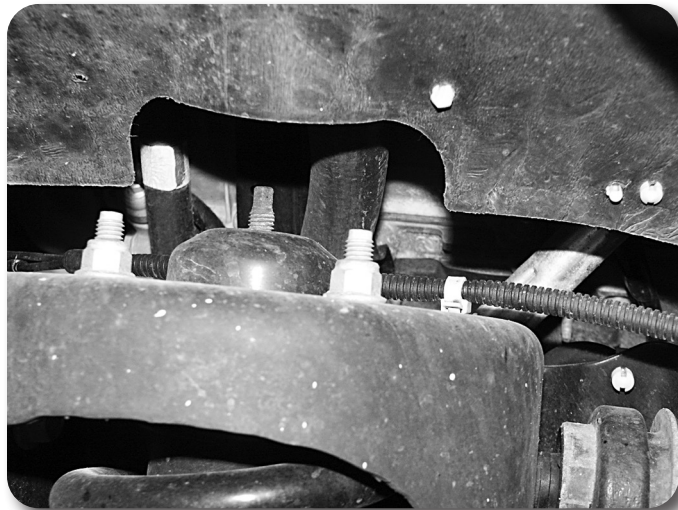

Figure 7
17. Remove the three strut assembly mounting nuts at the frame **Figure 7** and remove the struts from the vehicle. Do not loosen the middle strut nut.